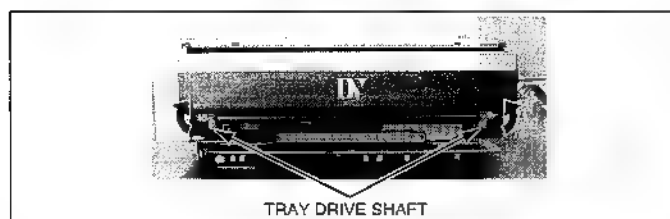

Fig. T-2
- Fig. T-2 When the Tray can not be opened normally, slowly turn the Tray Drive Shaft until the Tray is fully opened.